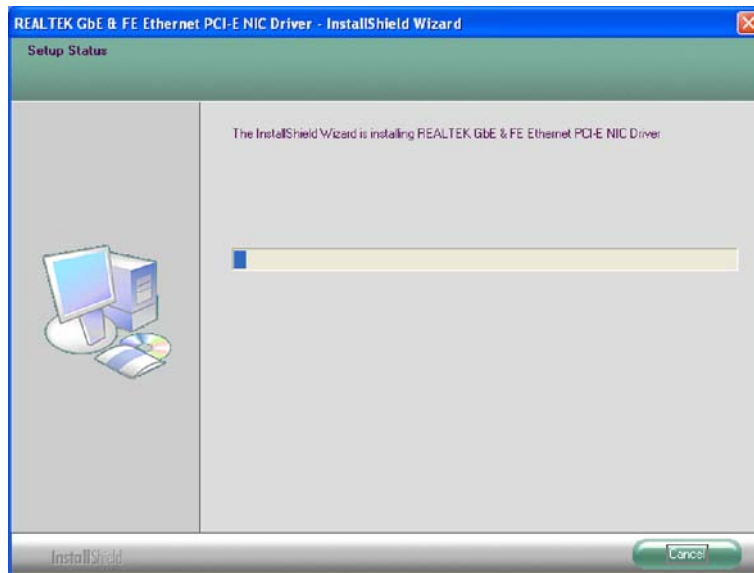

Figure 7-18: LAN Driver Installation
Step 43: The installation progress can be monitored in the progress bar shown in Figure 7-18.